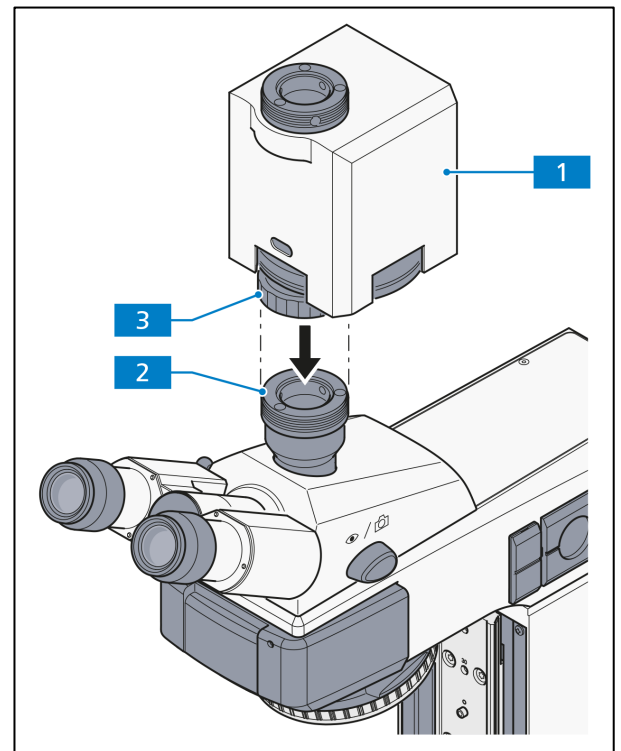

Fig. 3-40 Mounting the magnification changer
- Remove the camera adapter or the dust protection cover from the camera port (Fig. 3-40/2) of the photo tube.
- Mount the magnification changer (Fig. 3-40/1) on the camera port, adjust it and fasten it with the retainer nut (Fig. 3-40/3).